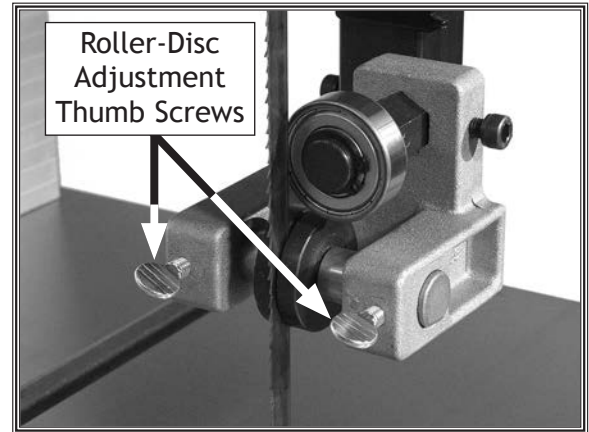

Figure 49. Location of upper roller-disc adjustment thumb screws (guide post cover removed for clarity).
3. Loosen both roller-disc adjustment thumb screws (see **Figure 49**), then position roller discs so they are close to—but not quite touching—sides of blade.